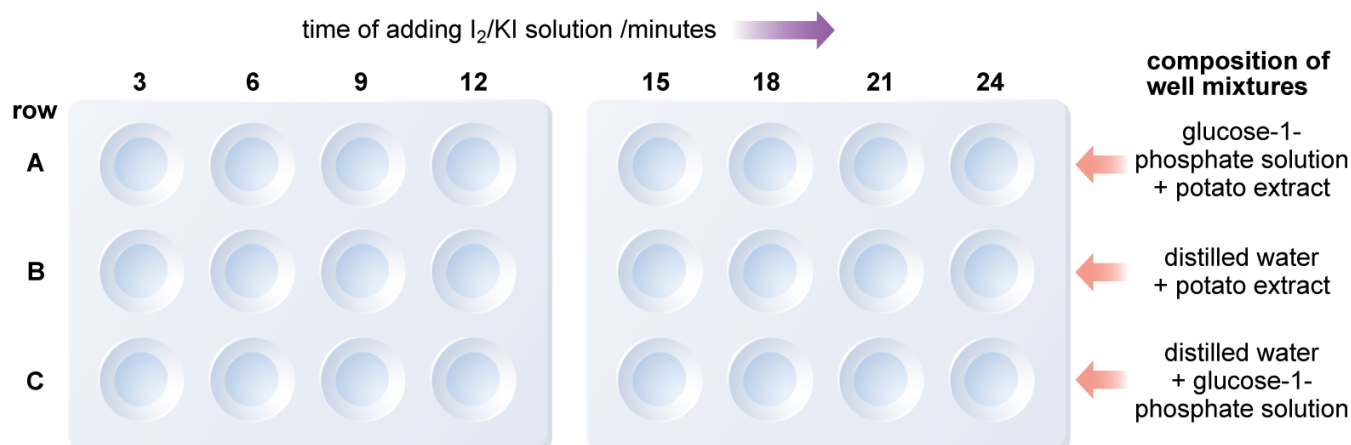

Figure 1 How the spotting tiles are set up.
8. If you are working in pairs, while one of you carries out steps 1–4 the other can set up the spotting tiles. Label the rows as shown in Figure 1.